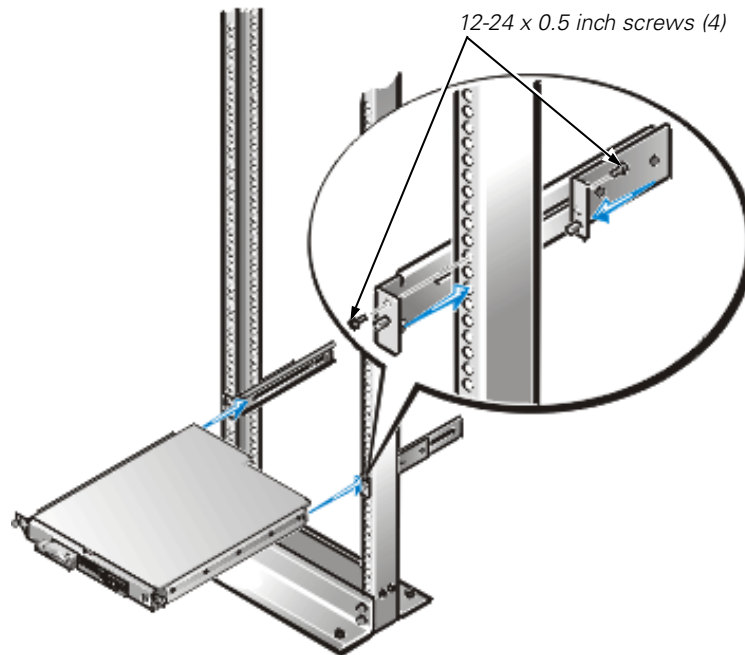

Figure 1-6. Installing the Bracket in the Rack
1. Slide the back portion of the bracket to its widest opening and place the mounting bracket into the rack, with the bottom of the bracket at the marks you made earlier (see Figure 1-6).